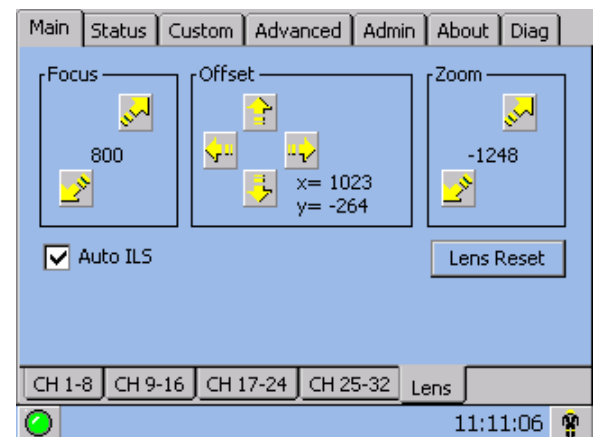

Figure 3-4 Intelligent Lens System
The **Main: Lens** menu is used to adjust the Focus, Horizontal (X) and Vertical (Y) Offset, and Zoom of the lens. See **Figure 3-4**. All settings on this screen are in real-time. This menu also enables you to manually override the intelligent lens system settings.
1. Select the **Main: Lens** tab (**Figure 3-4**).